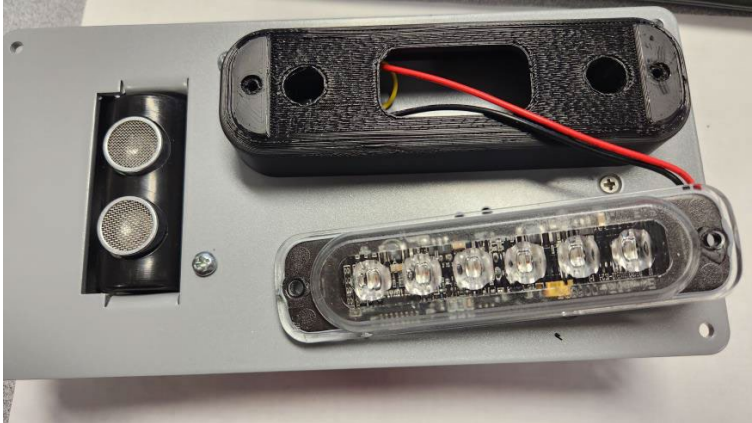

Figure 11: TWS adapter placed and installed to faceplate
11. Place the TWS light adapter on the faceplate aligned with the same hole locations from Step 4. Use previously removed screws from Step 4 to screw the adapter to the faceplate. Conceal both wires inside the TWS light adapter. Figure 11.